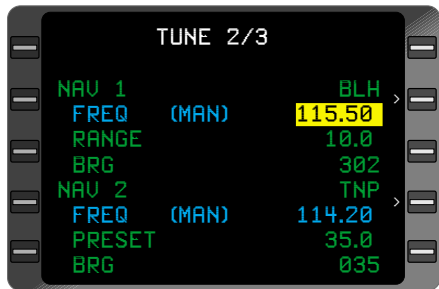

Figure 3-147
3. Frequency - INSERT or VERIFY. (Figure 3-147)